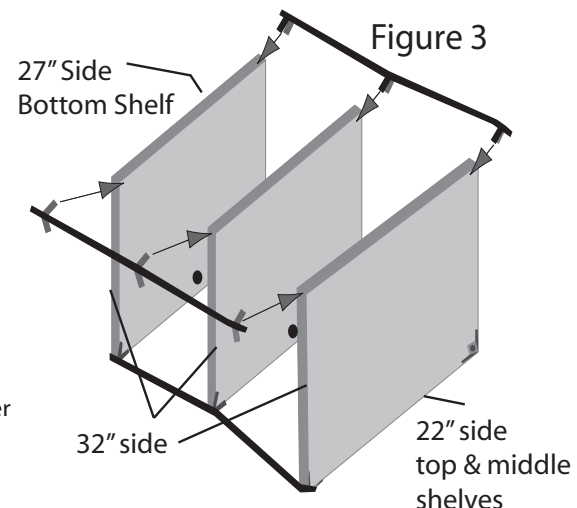

Figure 3
2. Place two matching legs on the ground as shown in figure 1. There must be one tab flat to the floor and one upwards. Fit the bottom (largest) shelf (27" side) over the tabs next to the caster sleeves (see figure 3) making sure that the tabs are fitted underneath the shelf (see figure 2).
4. Repeat step 2 and 3 with the middle and top shelf (22" side) ensuring that the grommet holes are all in the same position. (See Figure 3 & 4.) (Line up to the holes on the front legs and the assembly).